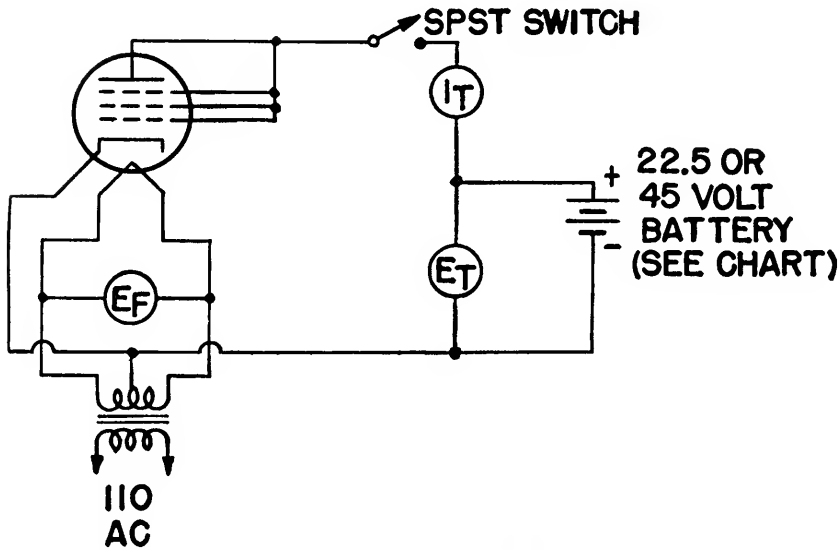

Fig. 3. Circuit diagram for limited peak emission test.
To run this test, connect the tube as shown in Fig. 3. Apply the filament voltage specified in column 1, page 6, and allow the filament to heat for five minutes. Make certain you are using the right plate voltage (column 2, page 6) then throw the switch. The instant the plate current meter settles down, make a mental note of the reading and turn the switch off. *Under no circumstances should the plate voltage be applied for more than four seconds.*
1. Exact figures are not available for tubes other than those listed on page 6 of that issue. However, when about 30 volts DC is applied to most small and medium power transmitting tubes in the circuit of Fig. 3, approximately twice the normal maximum rated plate current should be observed on the milliammeter.